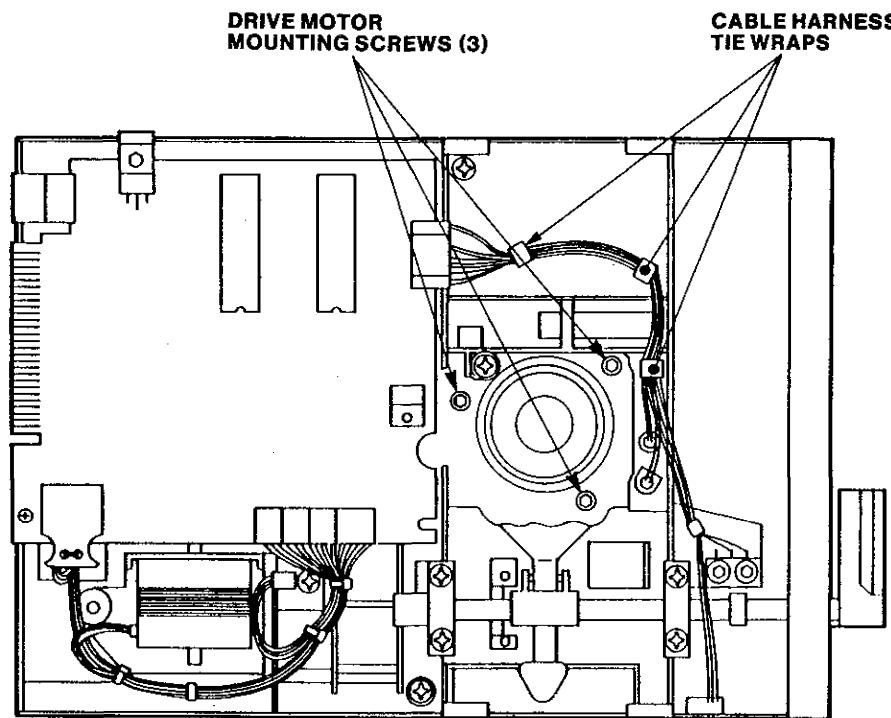

FIGURE 6-8
5. Cut the tie wraps attaching the drive motor connector to the cable harness (Figure 6-8).
2. Install and tighten the three mounting screws (Figure 6-8).